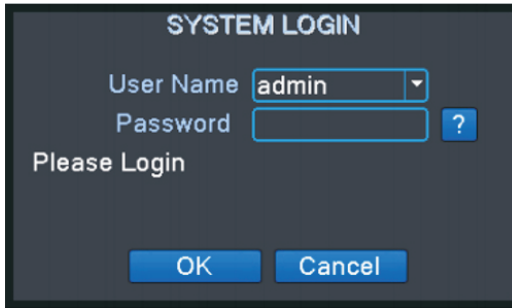

Figure 1. Login to DVR admin account.
1. Login to DVR admin account. See Figure 1.